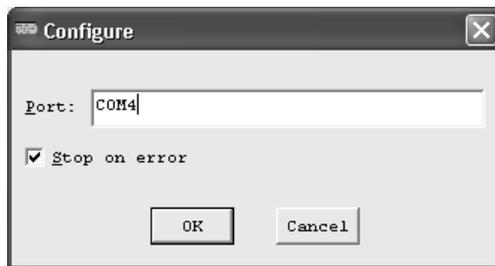

Figure 2. The configuration dialog lets you specify the COM port associated with the Documation/USB Interface
2. Click Configure. In the Select Port dialog, enter the COM port name used by the interface, as shown in Figure 2. Click OK.